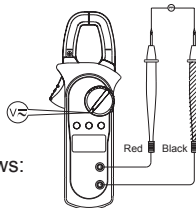

Figure 3
A. Measuring DC/AC Voltage (See Figure 3)